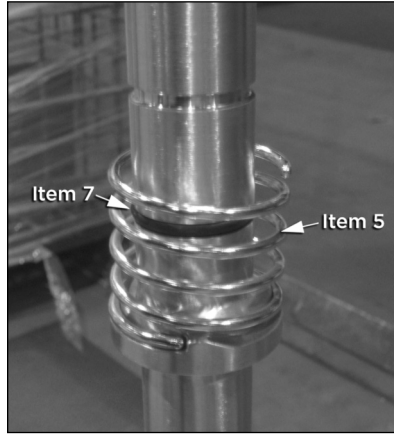

Figure 5
7. Slide the spring (item 5) onto the shaft, abutting the end of the spring against the outer ledge on the shaft; and follow it with the stainless steel rotary seal (item 6), matching the opposing end of the spring to the ledge on the rotary seal. The gasket seal (item 8) should be slid onto the shaft with the black silicon carbide side facing the rotary seal, resting the gasket seal on the opposing end of the rotary seal to the spring. See Figures 5 and 6.